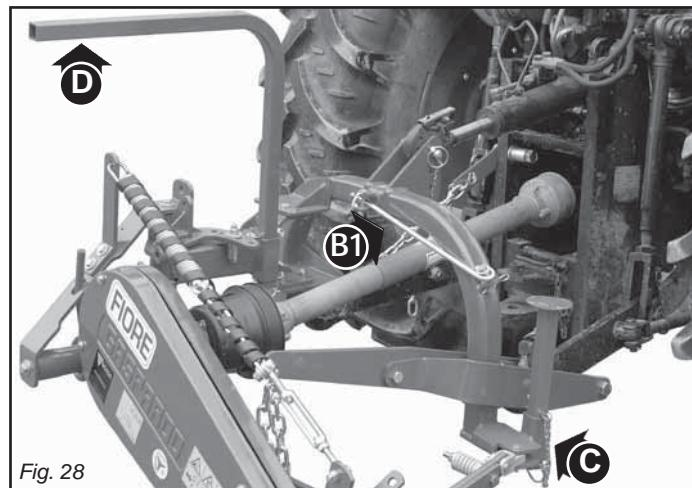

Fig. 28
- Remove support (C and D, Fig. 28) and remount them, upside-down in their seat.
- Remove safety hook (B1, Fig. 28), required only for transportation, and fit it back in the slot positioned above the chassis.